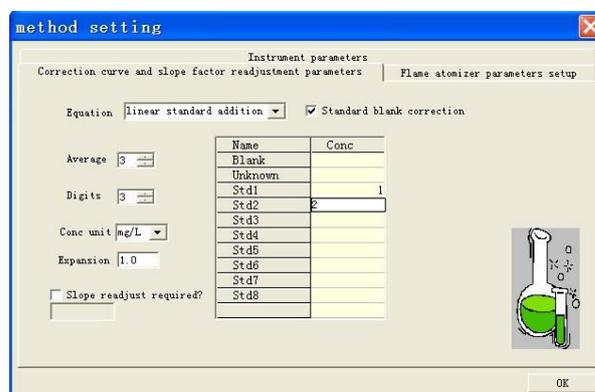

Figure 5-22
6. Select "**Linear standard addition method**" in the "Equation selection" pull-down list. Determine the conditions based on the actual needs. See Figure 5-22. (**Attention: At least 2 standard sample points should be entered.**)